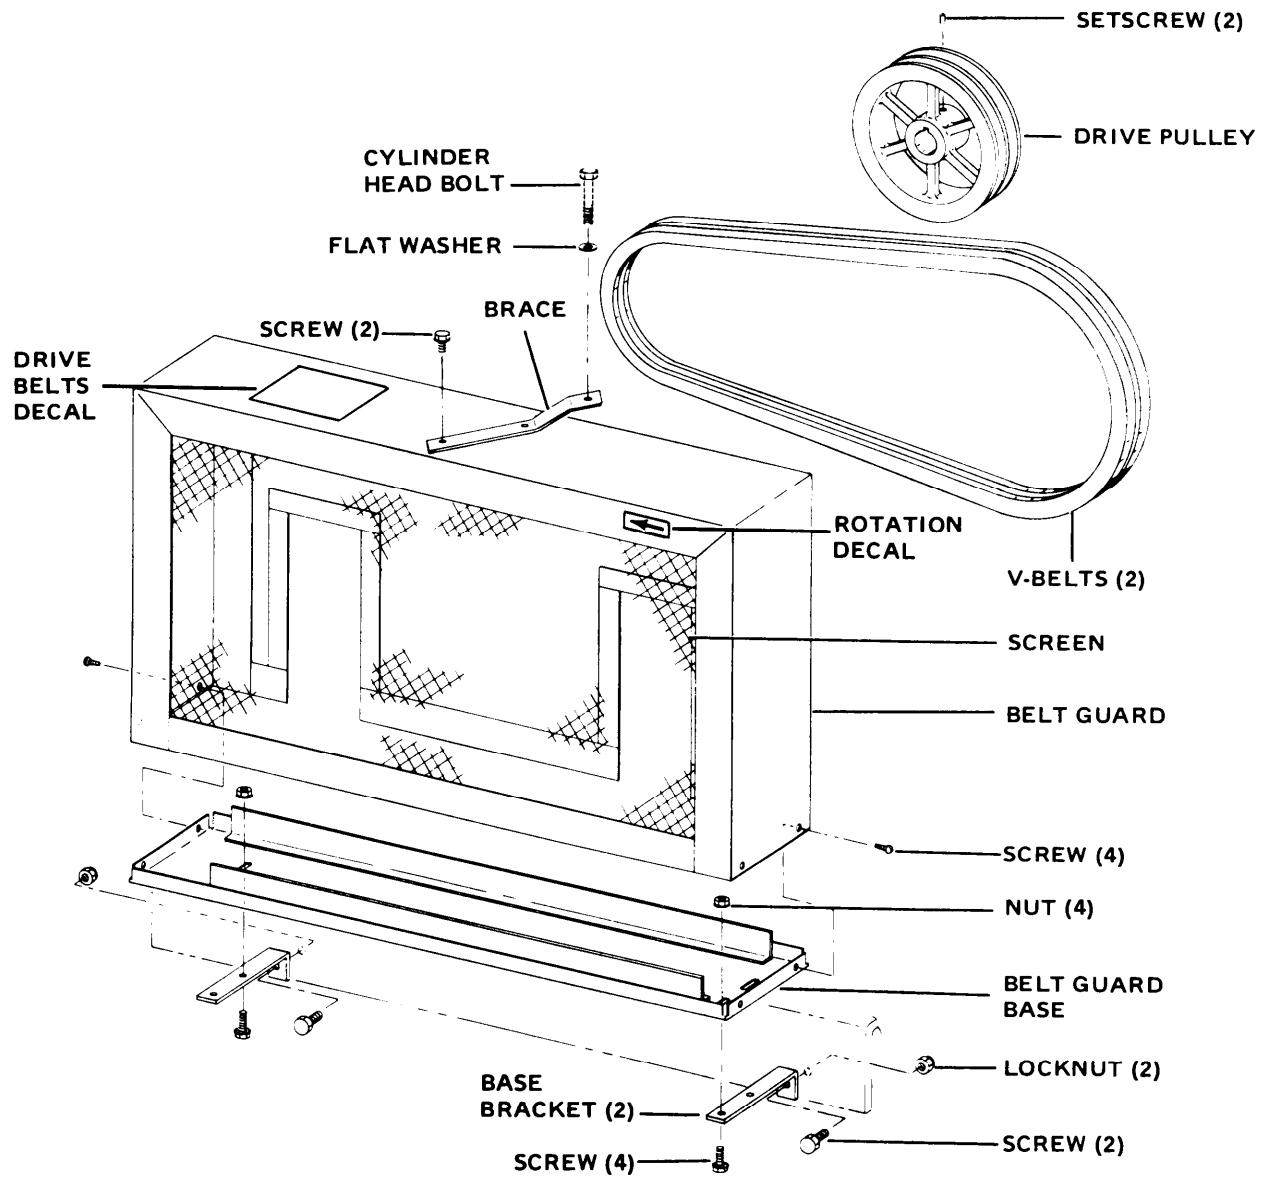

Figure 3-3. Belt guard, V-belts, and drive pulley
**a. Inspection.** Inspect belt guard assembly (fig 3-3) for damage to the screen or panels. Inspect for accumulation of grease, dirt, or foreign matter.
- (1) Use a cloth dampened in cleaning solvent, P-D-680, to wipe oil and dirt off V-belts (fig 3-3).
- (2) Clean drive pulley with solvent, P-D-680, and dry thoroughly.